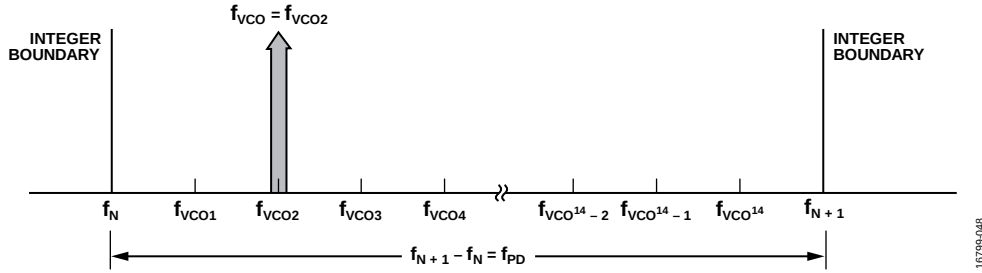

Figure 26. Exact Frequency Tuning
$f_{VCO}$  is the channel step frequency,  $0 < k < 2^{24} - 1$ , as shown in Figure 26.
related to the interval frequency ( $f_{VCOk} - f_{VCO(k-1)}$ ) in Figure 26. Consequently, the shortened accumulator results in more frequent repeating patterns and, as a result, often leads to spurious emissions at multiples of the repeating pattern period, or at harmonic frequencies of  $f_{VCOk} - f_{VCO(k-1)}$ . For example, in some applications, these intervals may represent the spacing between radio channels, with the spurious occurring at multiples of the channel spacing.
When multiple, equally spaced, exact frequency channels are needed that fall within the same interval (that is,  $f_N \leq f_{VCOk} < f_{N+1}$ ) where  $f_{VCOk}$  is shown in Figure 26 and  $1 \leq k \leq 2^{14}$ , it is possible to maintain the same Integer N register (Register 0x03) and exact frequency register (Register 0x0C) settings and only update the fractional register (Register 0x04) setting. The exact frequency channel mode is possible when Equation 17 is satisfied for at least two equally spaced adjacent frequency channels, that is, the channel step size.
To configure the ADF5610 for exact frequency channel mode, initially and only at the beginning, the Integer N register (Register 0x03) and exact frequency register (Register 0x0C) must be programmed for the smallest  $f_{VCO}$  frequency ( $f_{VCO1}$  in Figure 26). Calculate and program the integer register setting by
where  $f_{VCO1}$  is shown in Figure 26 and corresponds to the minimum channel VCO frequency. Then, the lower integer boundary frequency is given by  $f_N = N_{INT} \times f_{PD}$ .
$f_{VCO1}$ , as shown in Figure 26, represents the smallest channel VCO frequency that is greater than  $f_N$ .
4. To change from Channel 1 ( $f_{VCO1} = 2800.2$  MHz) to Channel 2 ( $f_{VCO2} = 2800.3$  MHz), only Register 0x04 must be programmed, as long as all of the desired exact frequencies ( $f_{VCOk}$ , see Figure 26) fall between the same Integer N boundaries ( $f_N < f_{VCOk} < f_{N+1}$ ). In that case,